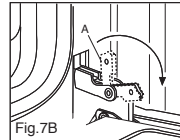

Fig.7B
3) flip the hinge hooks "A" outwards (see fig. 7B).